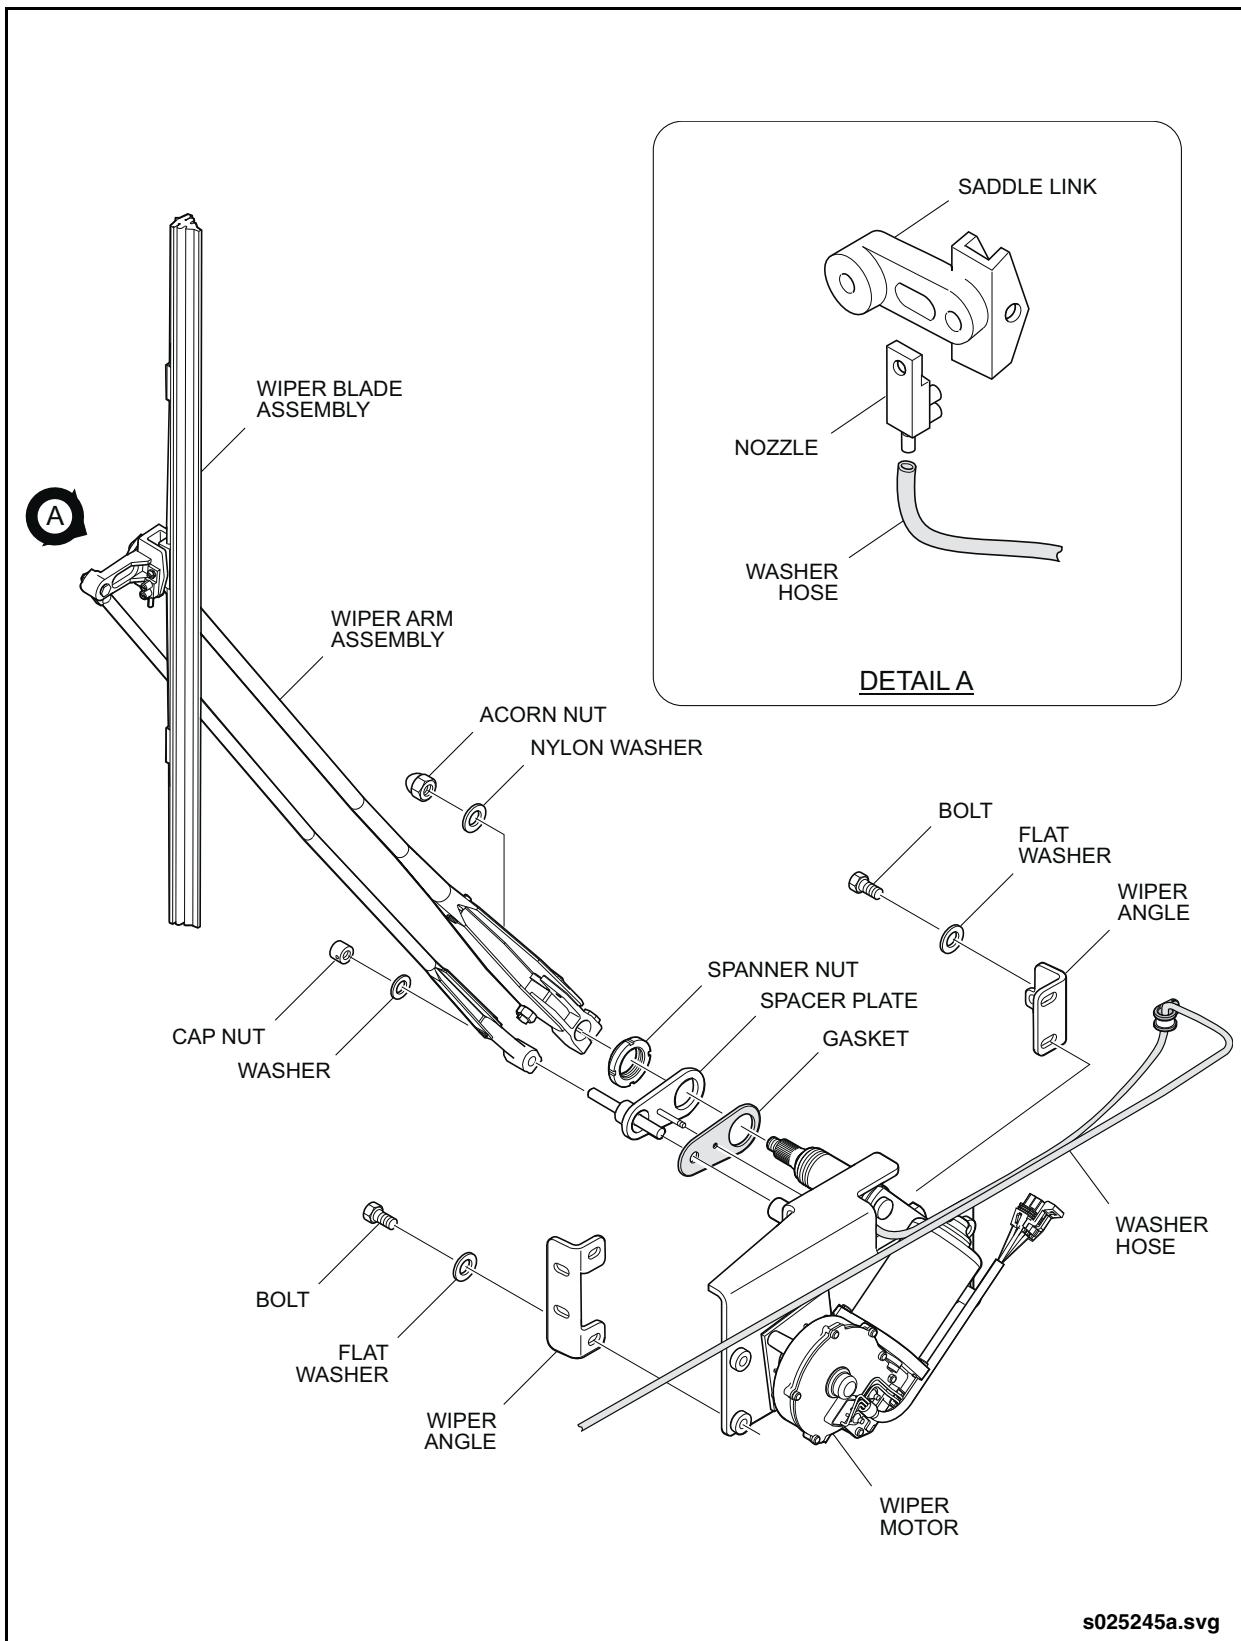

Fig. 13-15: Windshield Wiper & Motor Installation
1. Pull wiper arm away from windshield and insert nail or small pin in wiper arm hole, close to hinge point. Release arm. Arm should be held away from windshield. See “Fig. 13-15: Windshield Wiper & Motor Installation” on page 42.